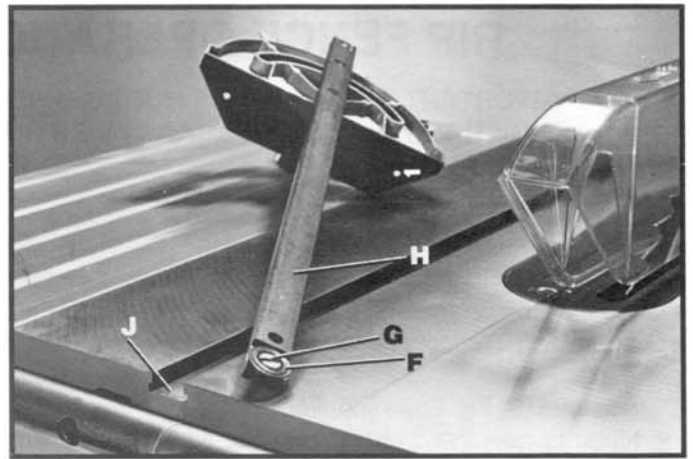
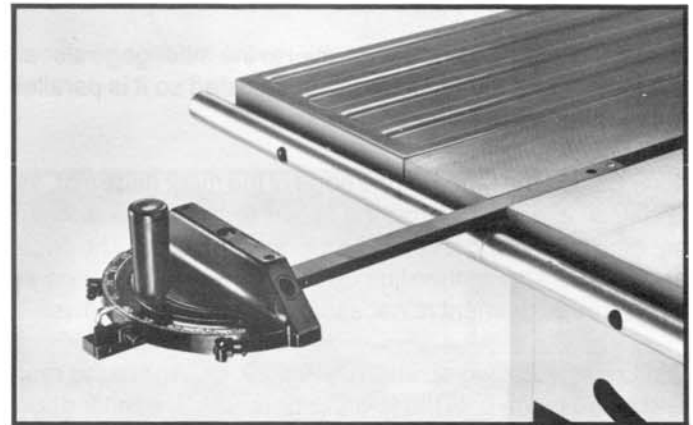

Fig. 30A
Fig. 30B
The miter gage is equipped with a special washer (F) Fig. 30A, and a flat head screw (G) which are assembled to the bottom end of the miter gage bar (H). The special washer (F) rides in the T-slotted miter gage slot (J) and prevents the miter gage from falling when it is extended out beyond the front of the saw table, as shown in Fig. 30B.